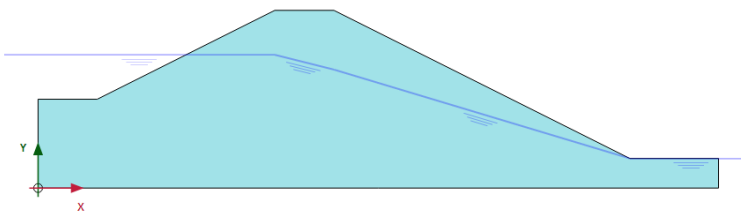

Figure 9.4 The model in the *Staged construction* mode
- Click the *Staged construction* tab to proceed to the corresponding mode. A global level is automatically created according to the head values specified for each borehole (Table 9.1). The model in the *Staged construction* mode is shown in Figure 9.4.